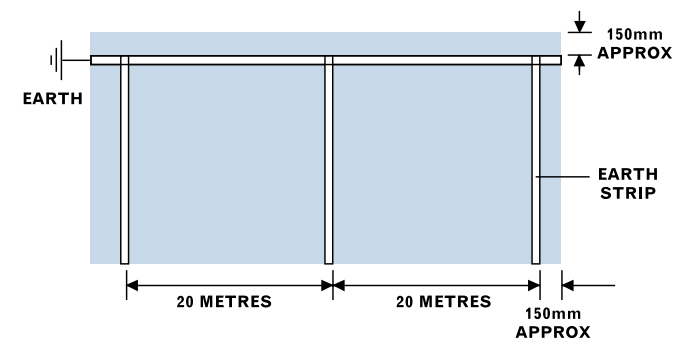

Figure 1 Earthing strip layout
8.5.1 Polyflor Static Dissipative (SD) range, OHmega EC and Polyflor EC
- ▶ The earth strip is laid 150mm from one side of the room, in the same direction as the vinyl sheets are to be laid. This strip is connected to a known earth (Fig 1).